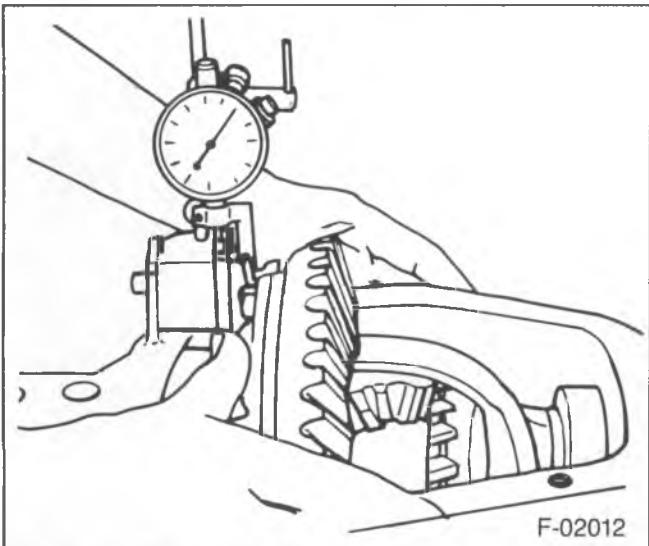

Figure 37—Measuring Differential Movement
1. Assemble the differential case (22) with master bearings installed to the axle housing. The pinion must be installed.
2. Mount a dial indicator having a minimum travel of 5 mm (0.200-inch) with a magnetic base on the ring gear bolt side of the housing (figure 37).